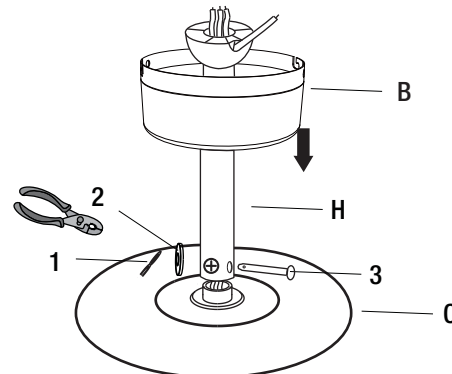

Figure 4
- Remove the split pin (1), washer (2) and pivot pin (3) from the downrod assembly (H) and set them aside for later.
- Place the downrod assembly (H) through the ceiling canopy (B) and insert the motor wires through the downrod assembly (H) (Figure 4).